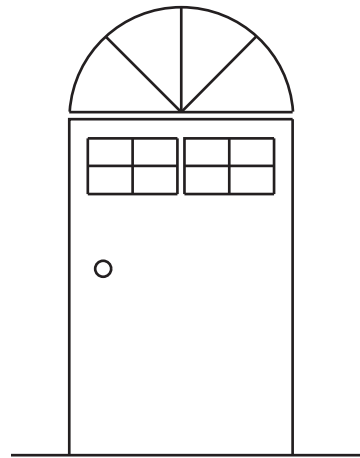

Fig. 13-9
1. Use the **ZOOM** command to draw the door with a fan window shown in Fig. 13-9. Approximate all dimensions.